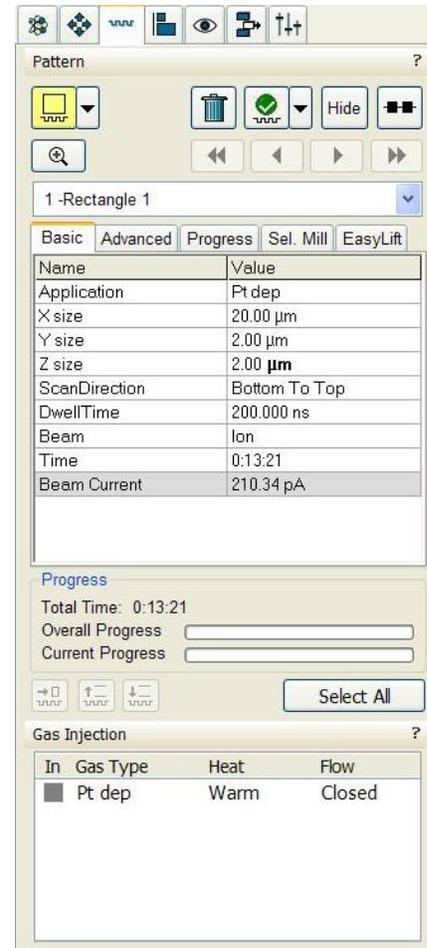

Figure 13
3. Draw rectangular pattern in Ebeam quadrant and choose **Pt e-dep surface in Pattern>Basic>Application** (Figure 13), pattern should be in green color, make sure the pattern is slightly wider than area of interest. Choose depth to be 0.1 um. Make sure the GIS is in **Warm** status (bottom panel in Figure 13).
2. Draw rectangular pattern in Ibeam quadrant and choose **Pt Dep** in **Pattern>Basic>Application** (Figure 13), pattern should be in green color, make sure the pattern is slightly smaller than the existing Pt layer. Choose the depth to be 1-2  $\mu\text{m}$ .